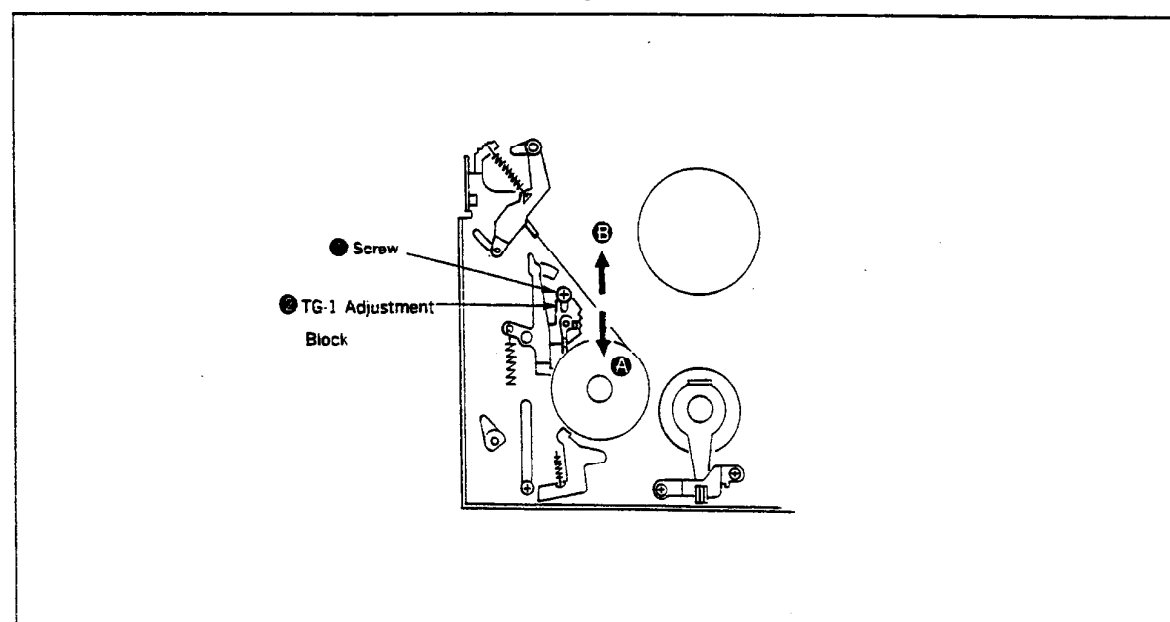

Fig. 48
- 6) When TG-1 is located inside (or outside) its specified position, shift the TG-1 adjustment block 2 slightly in a direction of the arrow ④ (or ⑤) and fix with the screw ②. (Fig. 48)